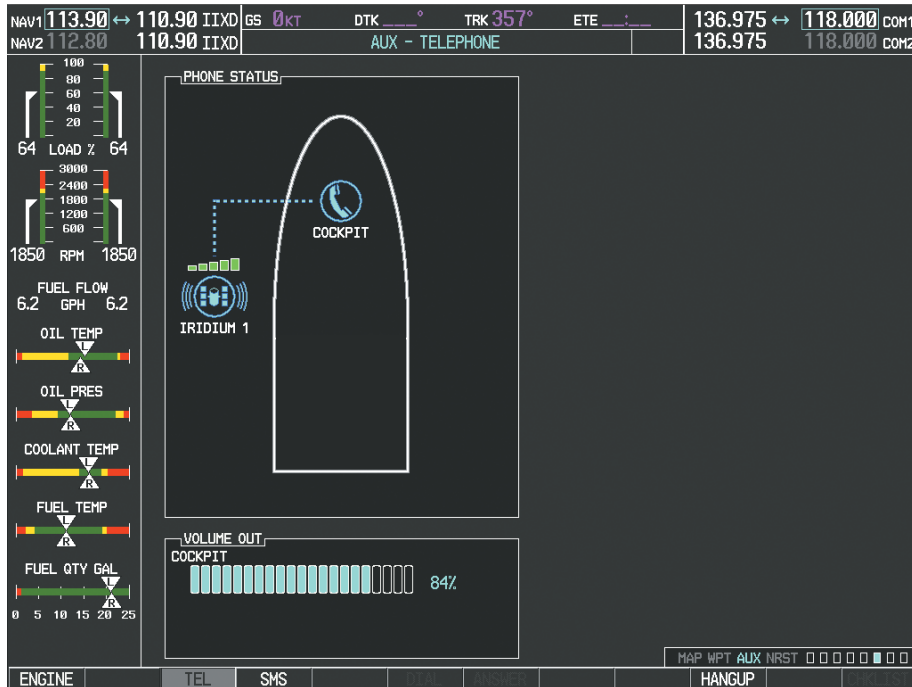

Figure 8-85 System is Making the Connection
- 5) Press the **ENT** Key. The system will begin calling the number, as in Figure 8-85.